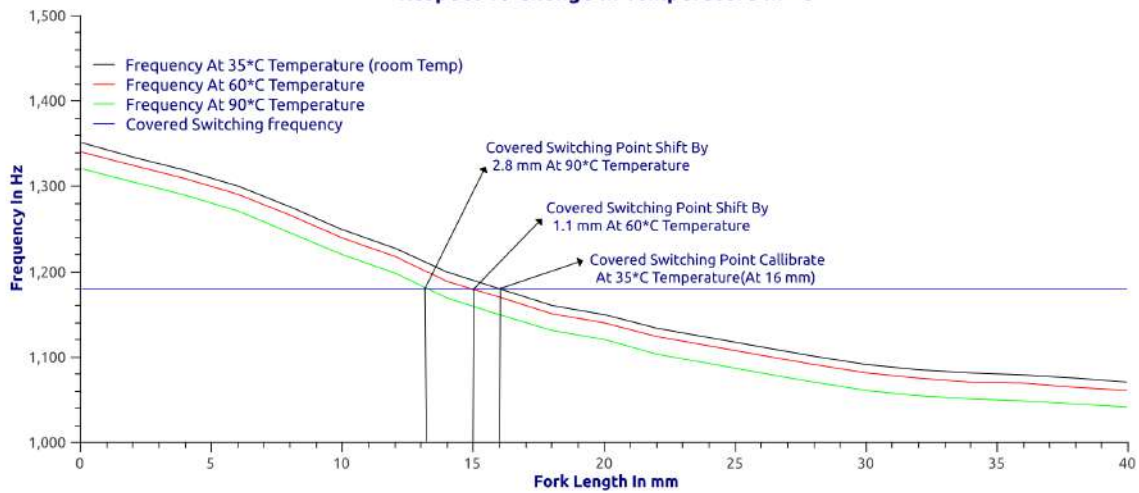

Figure 9: Influence of Process Temperature on Switching Point
2. **Process Temperature** - The influence of temperature on switching point of the device is described in Figure 9.